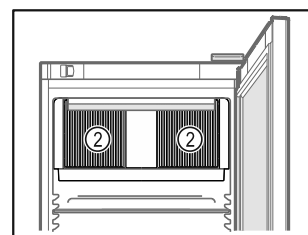

Fig. 56
- ❑ Ventilation slots Fig. 56 (2) for recirculation fan in the interior must be kept clear.